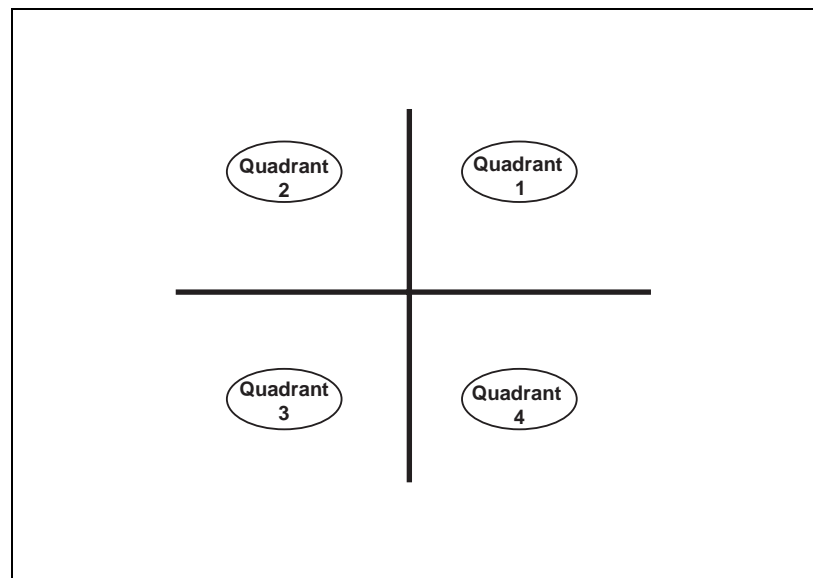

Figure 8-7 Reactive energy accumulates in four quadrants
- **Reactive accumulated energy readings.** The circuit monitor can accumulate reactive energy (kVARh) in four quadrants as shown in Figure 8-7. The registers operate in unsigned (absolute) mode in which the circuit monitor accumulates energy as positive.